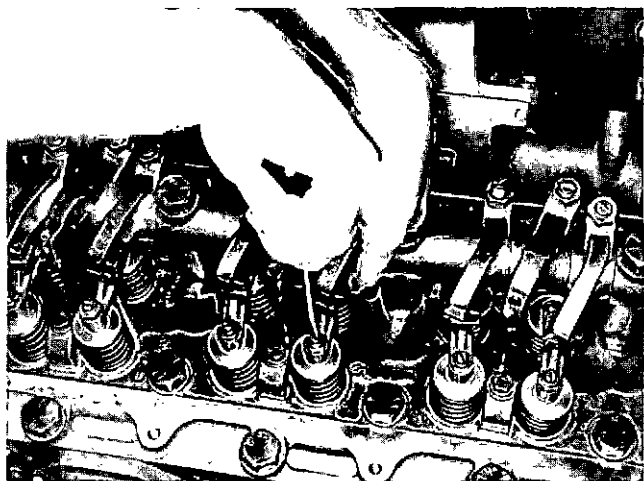

Fig. 2-41 (V51490) Adjusting crossheads
3. Turn down crosshead adjusting screw until it touches valve stem. Fig. 2-41.